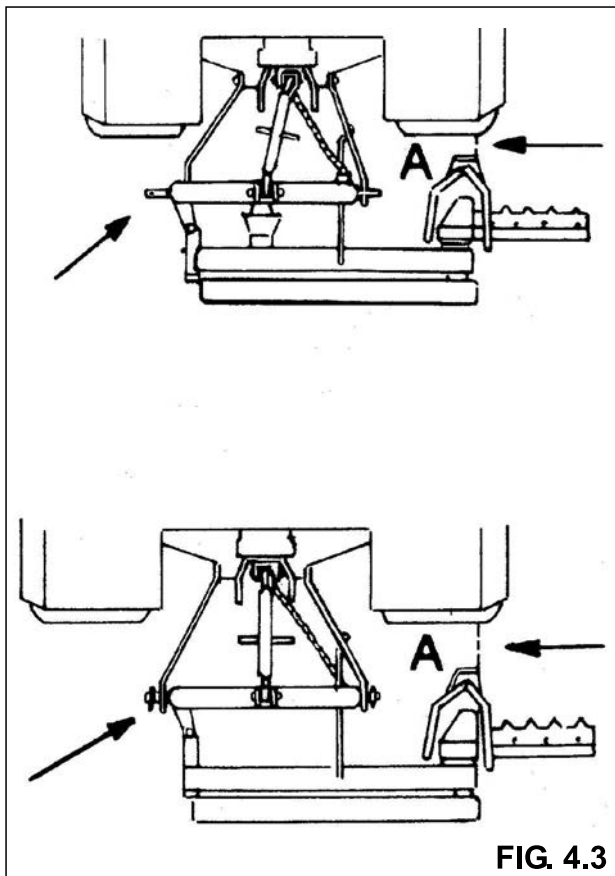

FIG. 4.3
**IMPORTANT:** According to the type of tractor you have use either internal or external pins "A" (see drawing below) so that internal skid of sickle bar mower "A" (see figure 4.3, page 9) remains behind tractor wheel.